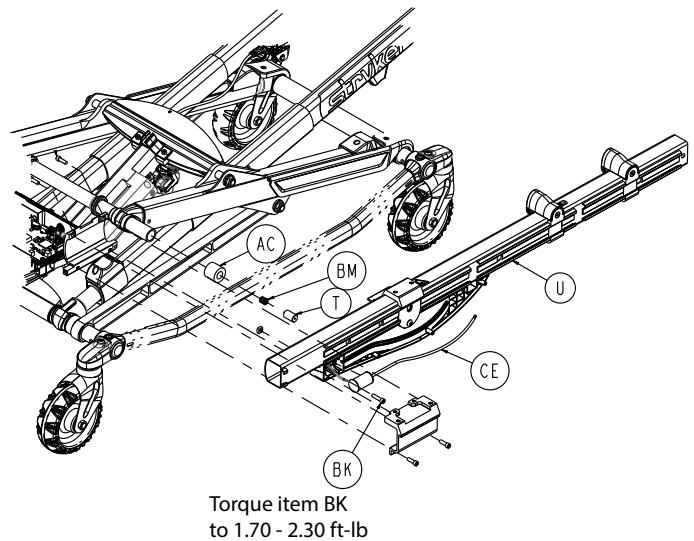

Figure 118 – Remove the slider magnet assembly
9. Unplug the MTS sensor assembly (CE) (Figure 118).
10. Using a T30 Torx driver, remove the socket head cap screw (BK) from the outer rail assembly (U) (Figure 118). Save the screw.
11. Remove the slider magnet assembly (T), slider roller (AC), and compression wire (BM) (Figure 118). Discard all parts.